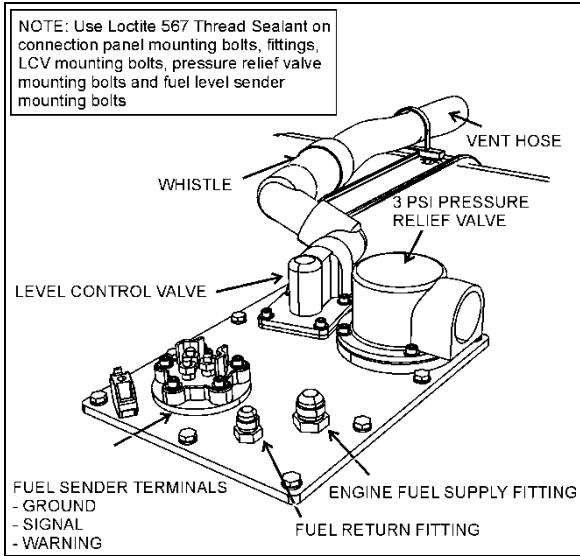

FIGURE 10: FUEL TANK CONNECTION PANEL
4. Disconnect the fuel level sender electrical wires (3wires). Prior disconnecting, identify the wires and proper terminal on the fuel level sender as reference for reinstallation (Figure 10).